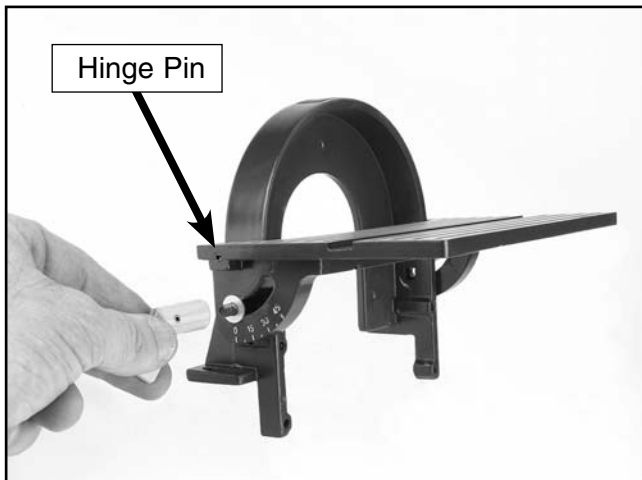

Figure 4. Disc guard and table assembly.
1. Align the table hinge pins into the slots in the sanding disc safety guard, and install the two lock lever assemblies as shown in **Figure 4**.